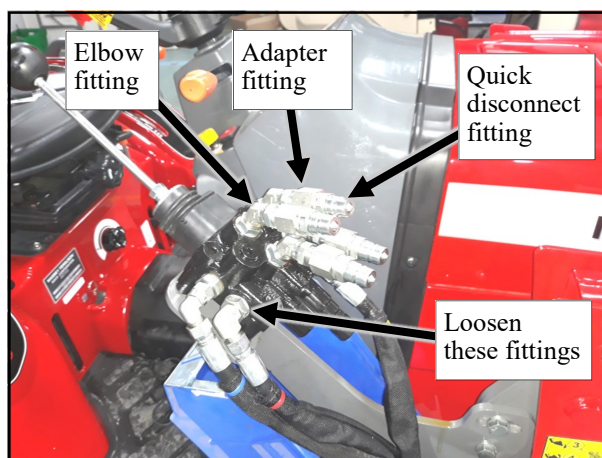

Fig. 2.4 (loader valve fittings)
2.4 Per figure 2.4, install the provided hydraulic elbow fittings to the valve, starting with the front pair. Get the fittings fairly tight and pointed forward, then tighten the swivel nut to secure. Install the provided adapter fittings onto the elbow fittings, then the quick-disconnect fittings that were removed in step 2.3 onto the adapter fittings.